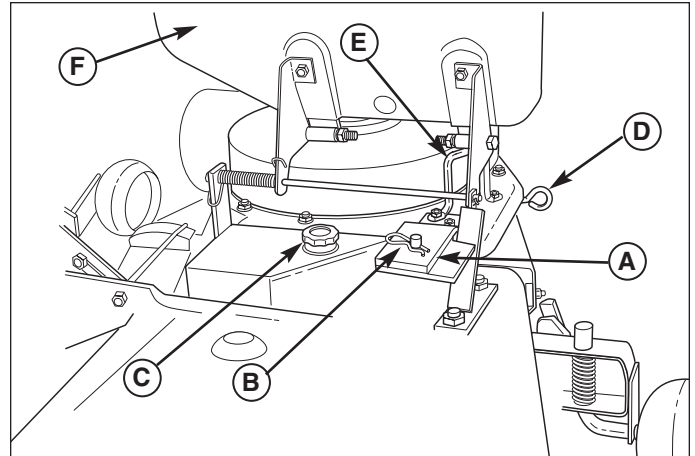

Figure 10. Mount/Remove Turbo
2. Unscrew the belt cover knob (C, Figure 10) and open the cover.
3. Move the idler release lever (D, Figure 10) to release tension on the drive belt and remove the belt from the arbor pulley.
4. Remove the hairpin clip (B, Figure 10) and remove the turbo assembly.
The upstop (E, Figure 10) prevents the deflector (F) from contacting the top of the turbo. If the upstop is not providing sufficient clearance, shim the upstop with washers until the deflector does not contact the turbo.